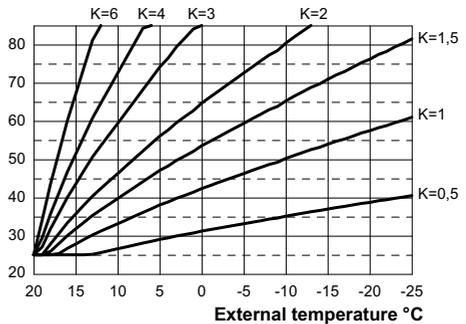

Fig. 7.15
If the boiler is **EQUIPPED** with the remote control (optional) refer to Fig. 7.15. In this case K setting must be done from the remote control.
When installing the external probe it is necessary to set this parameter based on the efficiency of the heating plant in order to optimise the flow temperature (Fig. 7.15).
line in Fig. 7.15).
- Using keys 12 or 13 it is possible to change the value of parameter 15 from a minimum of **01** to a maximum of **60** based on the selected bend of the K coefficient in Fig. 7.15 (the value read on the display corresponds to K coefficients decimal values).